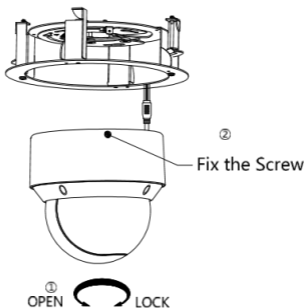

Figure 2-13 Fix the Camera
6. Fix the screws on the side with a screwdriver, as shown in Figure 2-13.